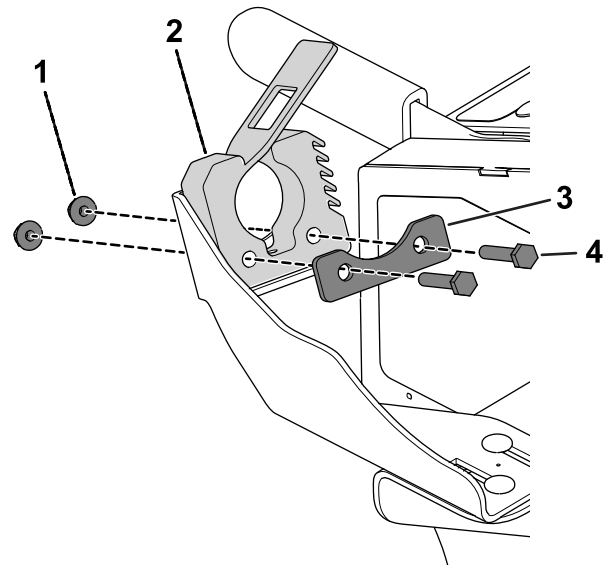

Figure 4
5. Use 2 hex-head bolts (1/4 x 1-1/2 inch) and 2 flange nuts (1/4 inch) to secure the large backer plate and the large clamp to the upper clamp mount (Figure 4).